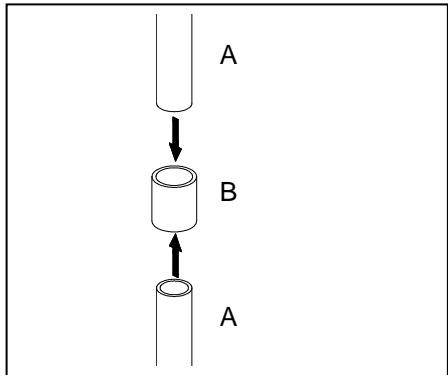

Fig. 1
1. Connect the two extension tubes with the coupler. Fig. 1